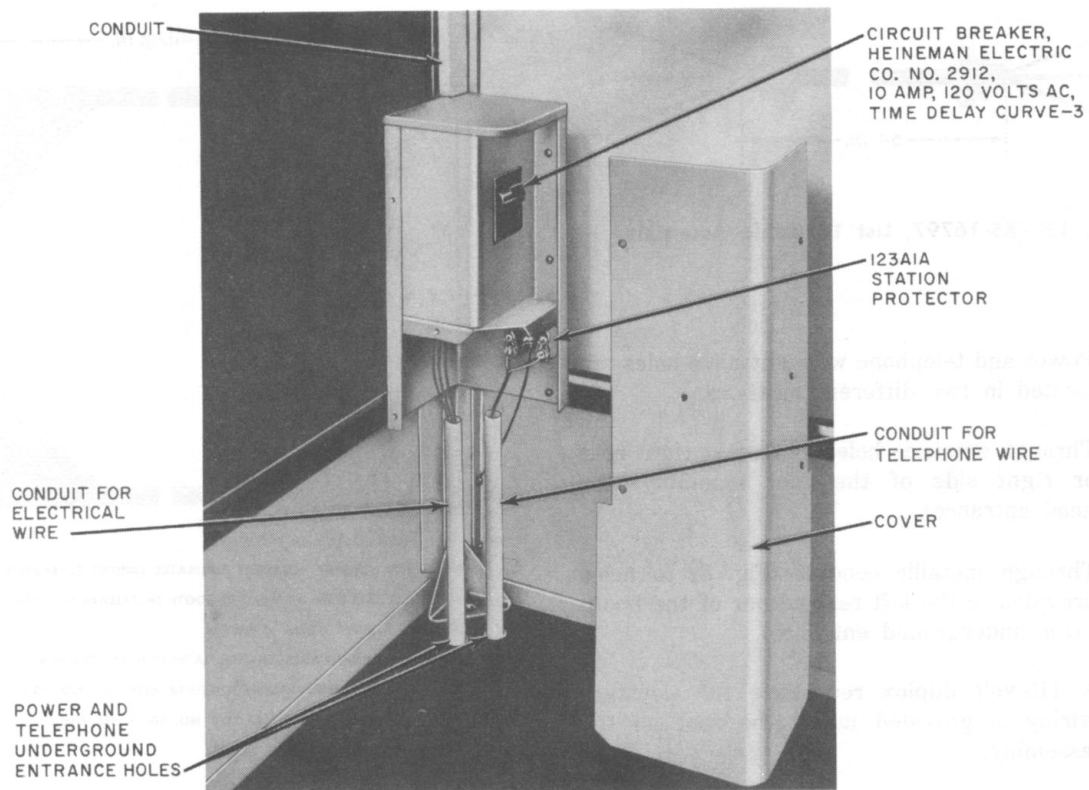

Fig. 8—Circuit Breaker and Associated Apparatus
2.15 The KS-16797, List 21 (for List 1 booth) or List 121 (for List 6 booth) junction box kit (Fig. 8) can be installed in the bottom left rear corner of the booth. It is used for underground or ground level power and telephone wire entrances. The kit includes two power leads and a divided rectangular conduit for enclosing wire from junction box to ceiling.
- (b) Through metallic conduit (Fig. 8) to holes provided in the left rear corner of the booth floor (for underground entrance).